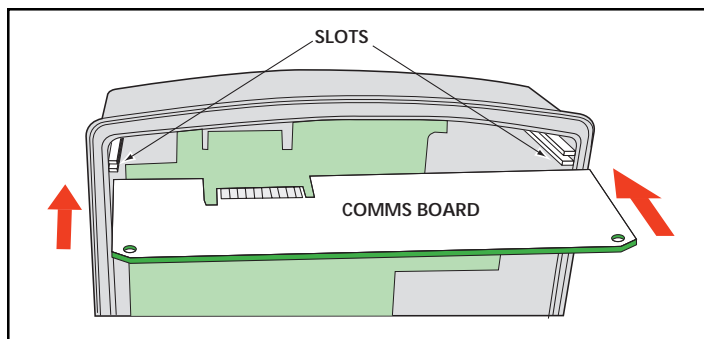

Figure 8 H8163-CB Installation
3. Slide the H8163-CB into the slot in the energy meter. The sides of the H8163-CB slide down into the channels on either side of the energy meter. When the male connection to the energy meter (see Figure 8) clicks into place, the H8163-CB is properly installed.